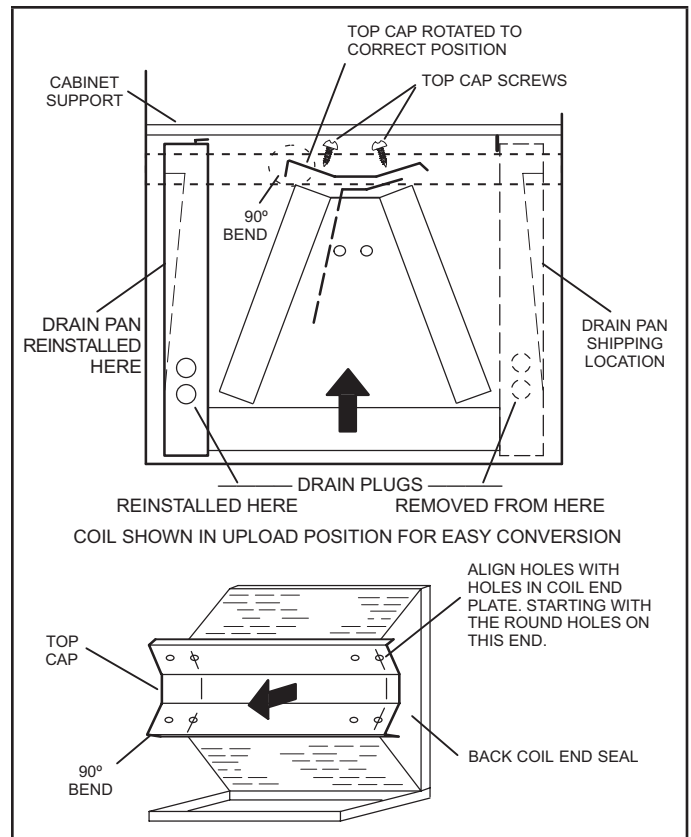

FIGURE 13. Field Modification for Left-Hand Discharge
- 7 - Rotate top cap 180° front-to-back and align with unused screw holes. Holes must align with front and back coil end plates. The top cap has a 45° bend on one side and a 90° bend on the other. **The 90° bend must be on the same side as the horizontal drain pan as illustrated in figure 13.**